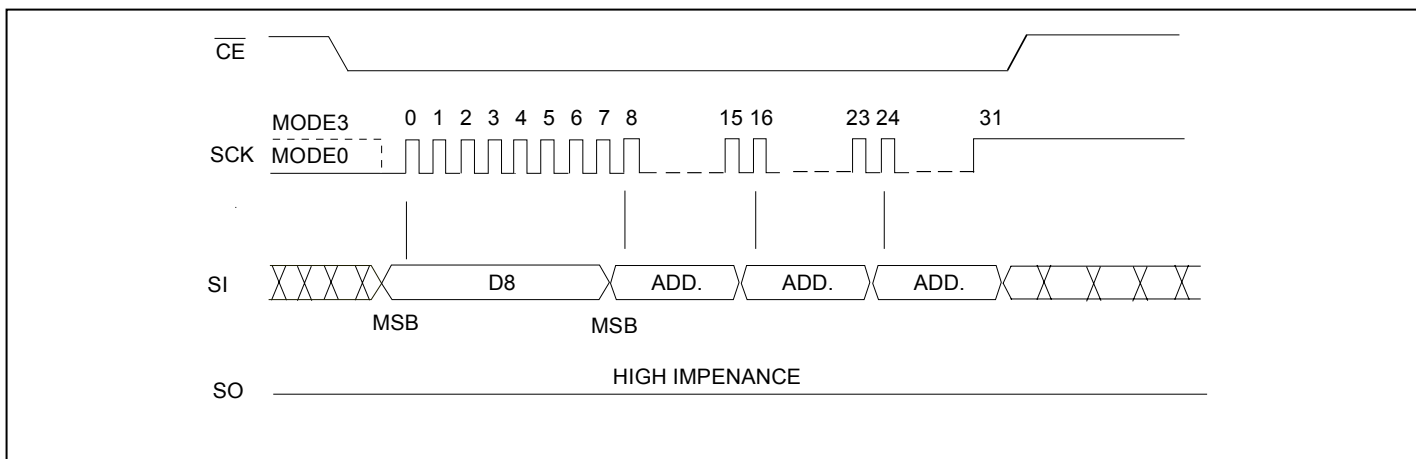

Figure 17: 64K-byte Block Erase Sequence
-A₀]. Address bits [A_{MS}-A₁₆] (A_{MS} = Most Significant address) are used to determine the block address (BA_x), remaining address bits can be V_{IL} or V_{IH}. \overline{CE} must be driven high before the instruction is executed. The user may poll the BUSY bit in the Software Status Register or wait T_{BE} for the completion of the internal self-timed Block Erase cycle. See Figure 17 for 64K Byte Block Erase sequence.